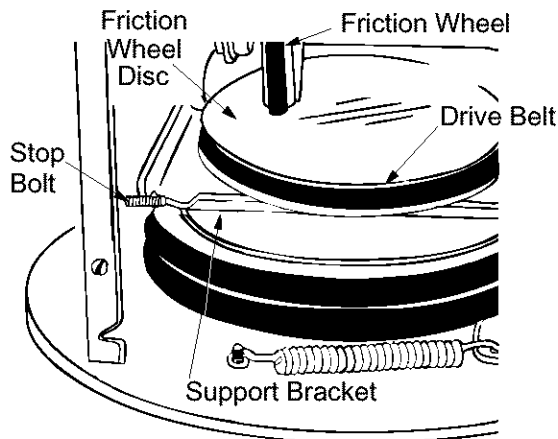

Figure 28
7. Back out the stop bolt to allow the belts to slip between the bolt and auger pulley. See Figure 28.
3. Back out the stop bolt until the support bracket rests on the auger pulley. See Figure 28.
4. Slip belt between friction wheel and friction wheel disc. See Figure 28. Remove and replace belt. Reassemble following the instructions in reverse order.
NOTE: The support bracket must rest on the stop bolt after the new belt has been assembled. See Figure 28.